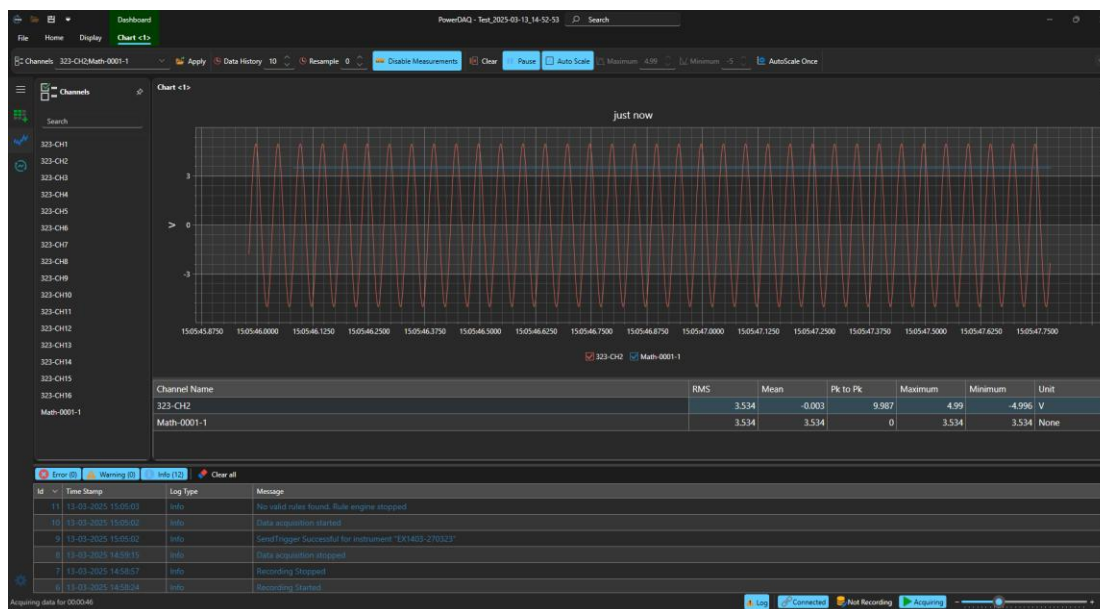

Figure 44. Acquiring Data with Math Channel
3. Add the configured physical channel and math function listed in the channels drop-down. Set Data History to a sufficient value. Click the **Apply** button. Refer to Figure 44.